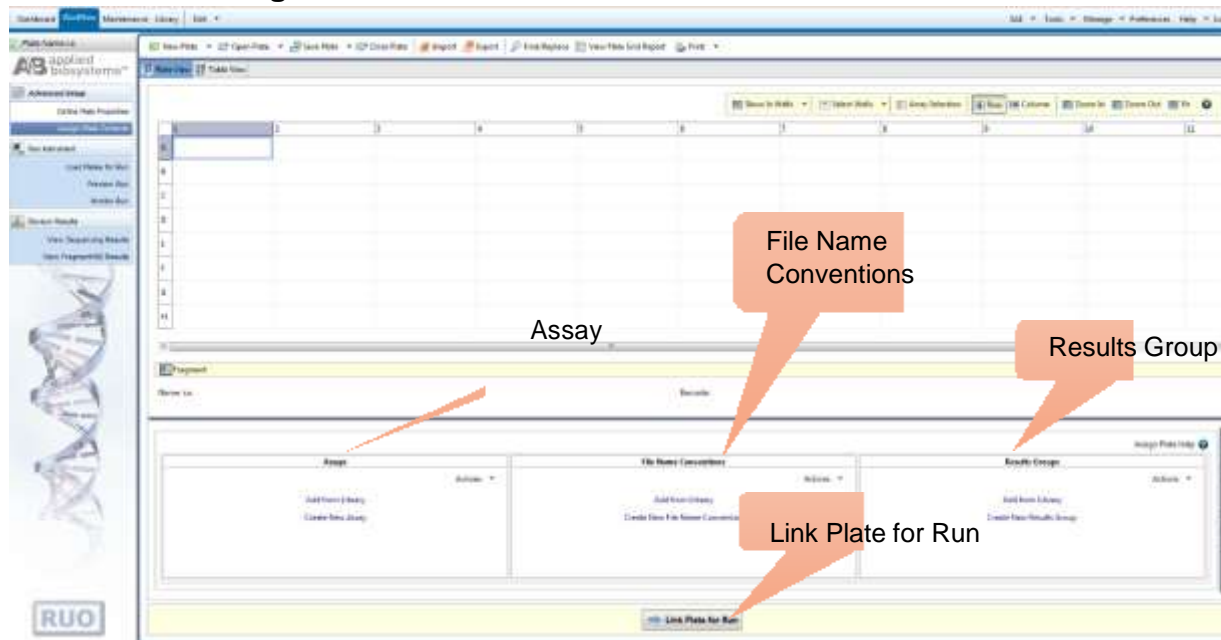

Figure 12. Screenshot for the “Assign Plate Contents” window on Applied Biosystems 3500 Data Collection software.
- In the *Assign Plate Window* (Figure 12), in the bottom left corner, in a box “Assay”, click *Add from Library* option to select the Assay created in Step 3.1.4. Click on the Add to Plate button and close the window.
- In the Run Information window, give a Run name (Figure 12). Select “Start Run” after loading the plate.